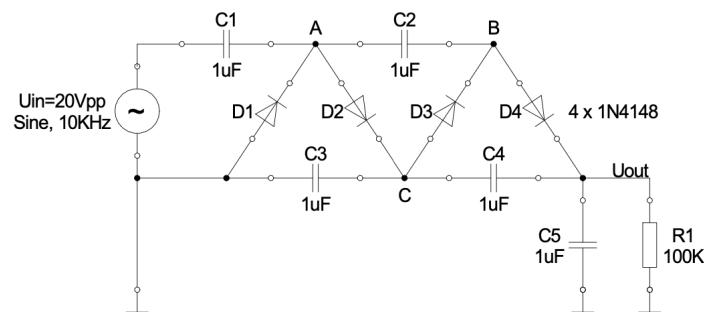

Figure 22: Circuit
The circuit from Figure 22 was built.
- The circuit shown in Figure 22 consists of clamper circuits and a diode rectifier. The clamper circuit adds DC voltage to the circuit, resulting the same signal which is centered above zero. Then, the rectifier gives DC voltage.